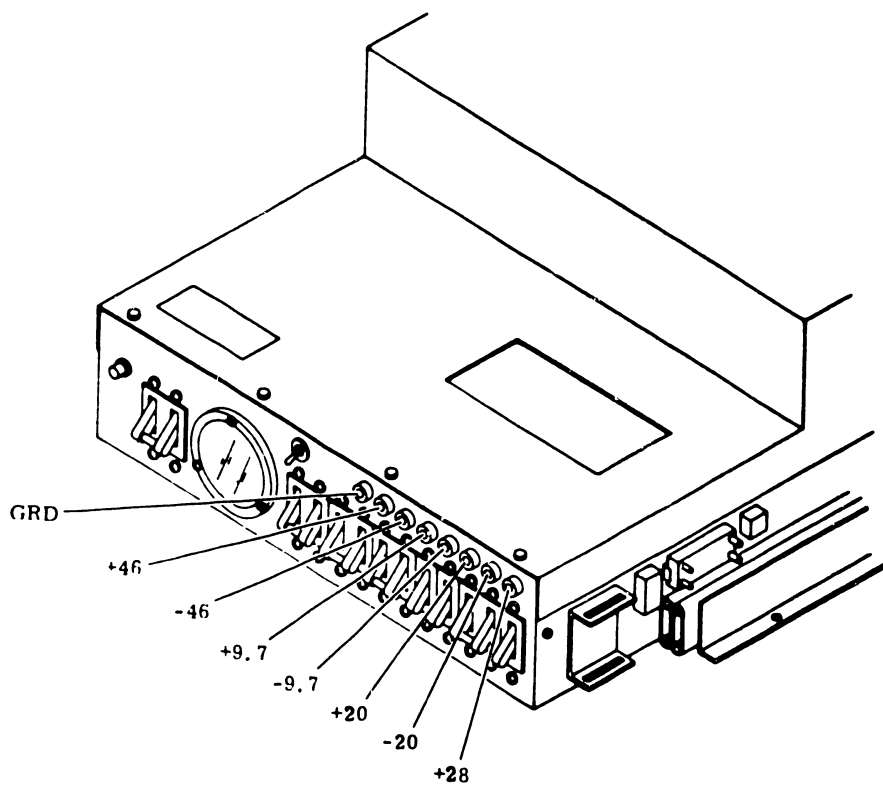

FIGURE 4-20 POWER SUPPLY CONTROL PANEL TEST POINTS
- D. Allow drive to operate for 10 minutes; then apply DC power by means of breakers (Figure 4-20). Using a DVM, check for the following voltages (indicated in Figure 4-20):
E. With an oscilloscope, check the following at test points (Figure 4-20):